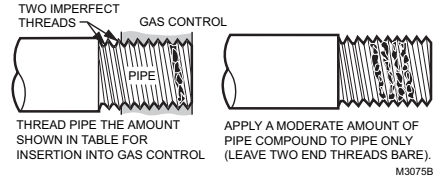

Fig. 4. Use moderate amount of pipe compound.
4. Apply a moderate amount of good quality pipe compound (do not use Teflon tape) to pipe only, leaving two end threads bare. On LP installations, use compound resistant to LP gas. (See Fig. 4).